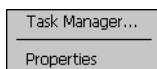

Figure 2-13. Task Manager, Properties Selection Menu
1. Select *Function* - **CTRL**, (to activate the ALT state) and tap the *Start* button to display the Task Manager, Properties window, see Figure 2-13 on page 2-38.